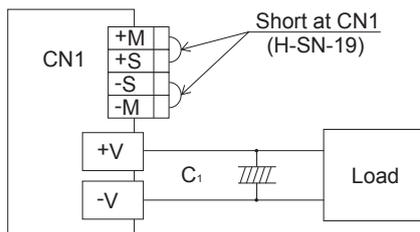
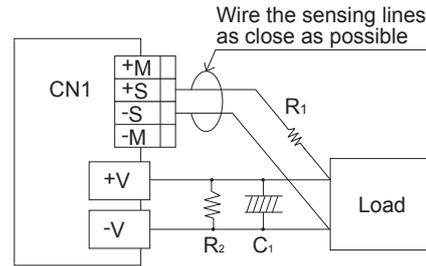

Fig.2.4 When not using remote sensing function
Fig.2.5 When using remote sensing function
■ Please see Fig.2.4 if you do not use the remote sensing function. Please see Fig.2.5 if you use the remote sensing function.
- ① Wire carefully. When a connection of a load line becomes loose (due to such factors as loose screw), the load current flows to the sensing line and internal circuits of the power supply may be damaged.
- ② Use a sufficiently thick wire to connect between the power supply and the load and keep the line drop at 0.3V or below.
- ③ If the sensing line is long, connect C1 and R1.
- ④ Use a twisted pair wire or a shielded wire as the sensing line.
- ⑤ Do not draw the output current from +M, -M, +S or -S.
- ⑥ When the remote sensing function is used, the output voltage of the power supply may show an oscillating waveform or the output voltage may dramatically fluctuate because of an impedance of wiring and load conditions. Please check and evaluate carefully before using the remote sensing function.